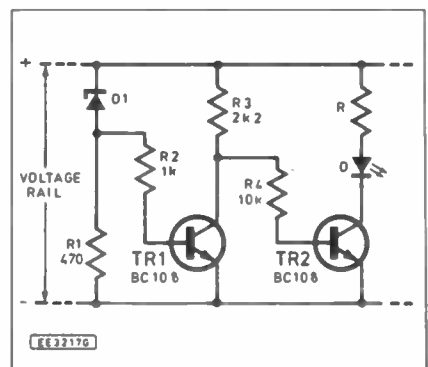

Fig. 9.9. Battery level indicator.
L.E.D. indicators can be invaluable as means of indicating battery level in portable equipment. Fig. 9.9 shows a simple circuit arrangement in which the l.e.d. will become illuminated whenever the supply voltage falls to about 1V more than the Zener voltage.